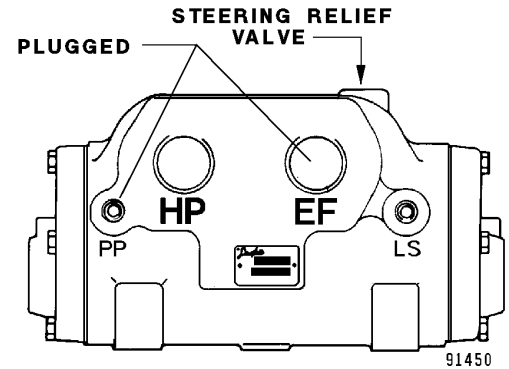

FIGURE 6-3. FLOW AMPLIFIER VALVE
2. Install a calibrated 5000 psi (35,000 kPa) gauge at port "PP" (Figure 6-3) of flow amplifier.
- a. Remove steering relief valve external plug using an 8 mm metric allen wrench. Refer to Figure 6-3.
- b. Gently bottom out the steering relief valve using a 5 mm metric allen wrench. Refer to Figure 6-3 for relief valve location.